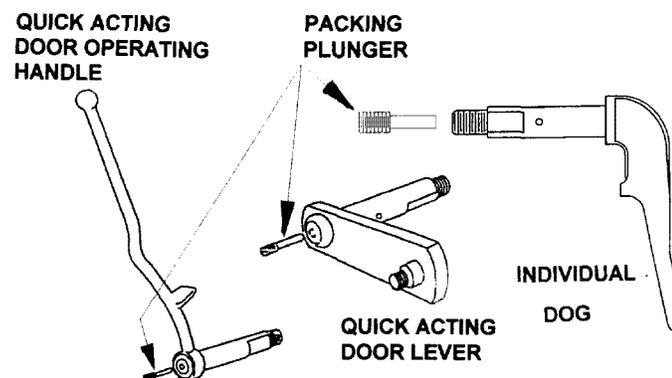

Figure 2-17. Packing Plunger Locations
**2-1.12 REPLACEMENT OF STICK PACKING AND PACKING PLUNGERS.** A hollow shaft which runs down the center and out the sides of dog and hand-lever spindles on watertight doors permits the repacking of these fittings without disassembly. On most doors, the lengthwise opening is threaded and equipped with a packing plunger. (See figure 2-17.) As the plunger is screwed in, it forces 1/4-inch by 1-1/4-inch stick packing (which was specifically developed for watertight doors) out and around the spindle, filling the voids between the spindle, its associated fittings, the string packing, and the spindle sleeve. Stick packing is used in conjunction with string packing to provide an air, gas, and watertight seal around the spindle of the dogging mechanism. Each time maintenance is required, the plunger is screwed in until stick packing is squeezed out around the spindle. If the packing has been completely used up, the packing plunger will not screw in any farther. When this occurs, the stick packing must be replenished.